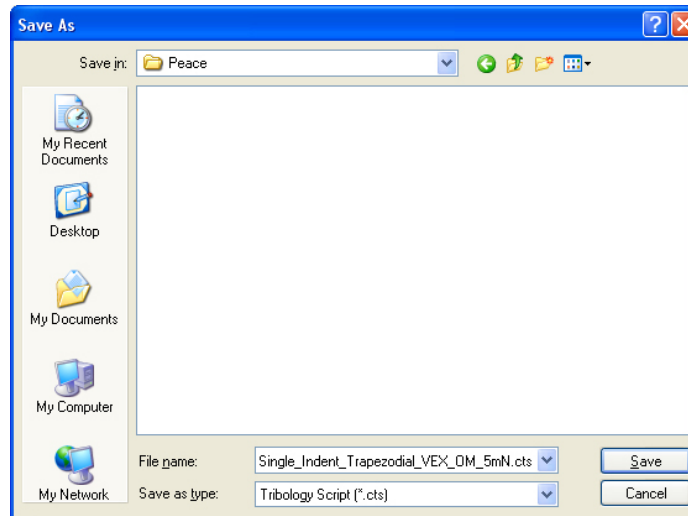

Figure 6: Newly created script being saved to a user's folder.
- 5) Save the new script (you can create your own script folder if you like, but use a different name than the pre-built scripts) Figure 6 shows a new script being saved into a user's folder: